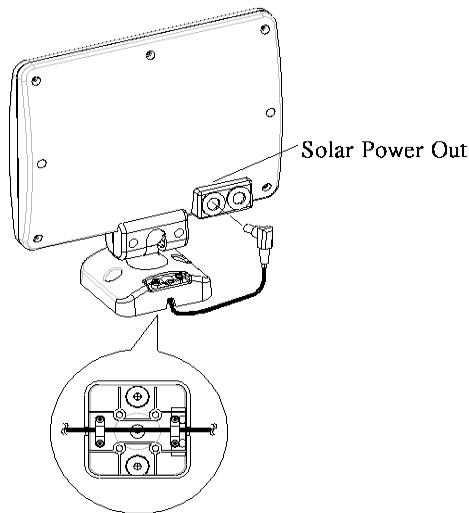

FIGURE 4
2. Loosen the screws from the strain relief located on the base of solar panel. (FIGURE 4)
4. Plug one end of the jacks with 20cm length of connecting wire to the 'solar power out' of rear side of the solar panel. (FIGURE 4)